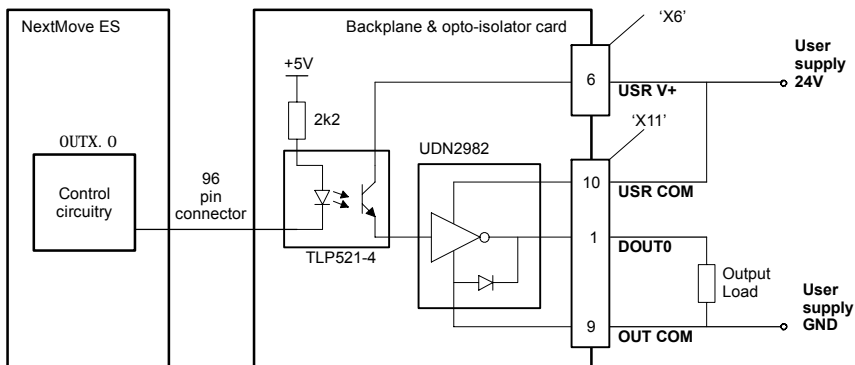
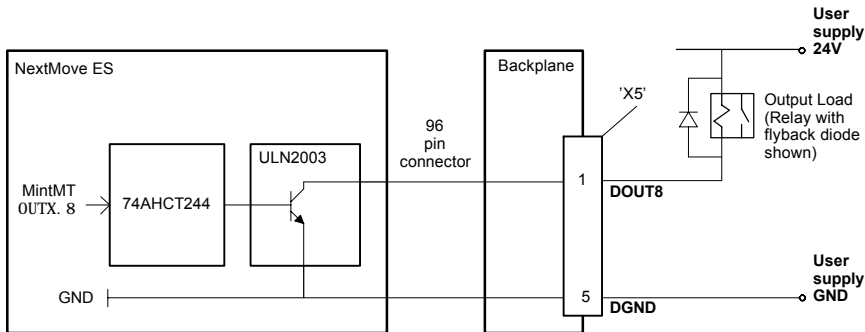

Figure 18 - Digital output circuit (DOUT0-7) with 'PNP' current sourcing module - DOUT0 shown
Figure 20 - Digital output circuit (DOUT8-11) - DOUT8 shown
* The BPL010-502 and BPL010-503 opto-isolating cards use different output driver ICs, as shown in Figures 18 and 19. Due to the pin configuration of these ICs, the functions of the X11 connector's USR COM and OUT COM pins are different on the PNP and NPN cards.
An external supply (typically 24VDC) is used to power the UDN2982 output devices, as shown in Figure 18. When an output is activated, current is sourced from the user supply through the UDN2982, which can source up to 75mA per output (all outputs on, 100% duty cycle). Connect OUT COM to the user supply GND. This will connect internal transient suppression diodes on all outputs. If an output is used to drive a relay, a suitably rated diode must be fitted across the relay coil, observing the correct polarity (see Figure 20). The use of shielded cable is recommended.
An external supply (typically 24VDC) is used to power the UDN2803 output devices and drive the load, as shown in Figure 19. When an output is activated it is connected to USR COM through the ULN2803, which can sink up to 150mA per output (all outputs on, 100% duty cycle). Connect OUT COM to the user supply 24V. This will connect internal transient suppression diodes on all outputs. If an output is used to drive a relay, a suitably rated diode must be fitted across the relay coil, observing the correct polarity (see Figure 20). The use of shielded cable is recommended.